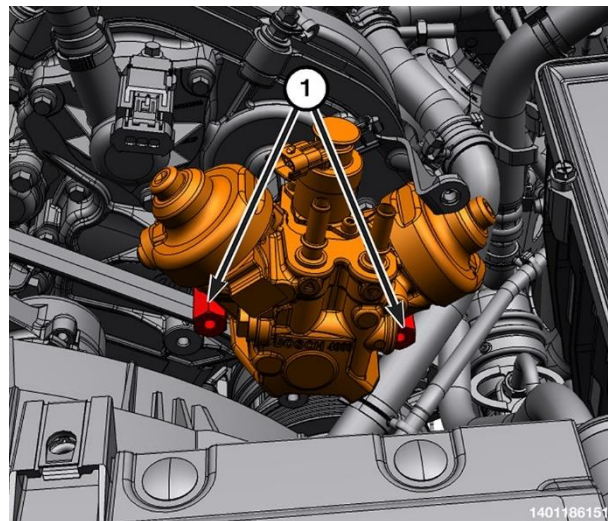

Figure 137 – HPFP Upper Bolts
76. Remove the upper bolts (1) from the high-pressure pump (Figure 137).